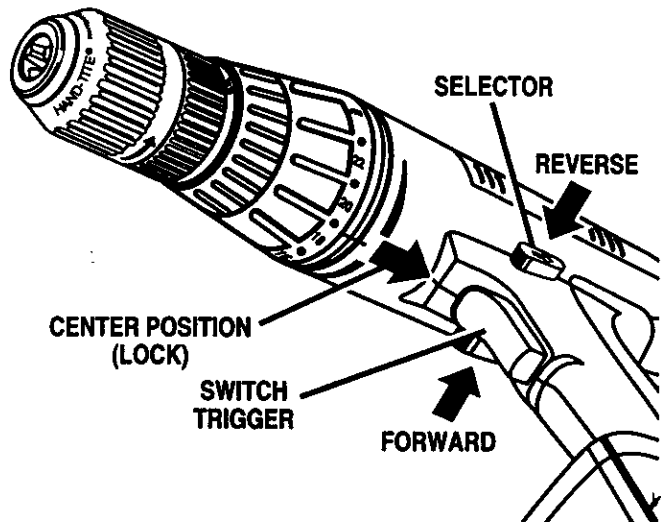

Fig. 6
See Figure 6.
- Lock the switch trigger by placing the direction of rotation selector in center position. See Figure 6.